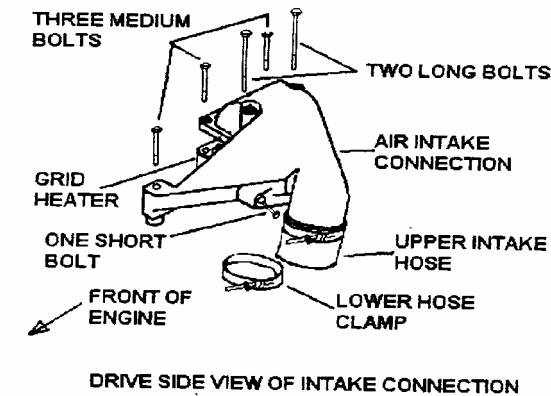

FIGURE 1
5. Using a 7/16" deep socket, loosen lower clamp on upper intake connection hose and slide lower clamp off of hose and down the steel tube out of the way. (FIGURE 1)
6. Remove the six bolts holding the air intake connection and dipstick tube in place using a 10 mm 6 point socket. **NOTE:** Observe that these bolts are of different lengths so they can be installed in correct location during assembly. (FIGURE 1)